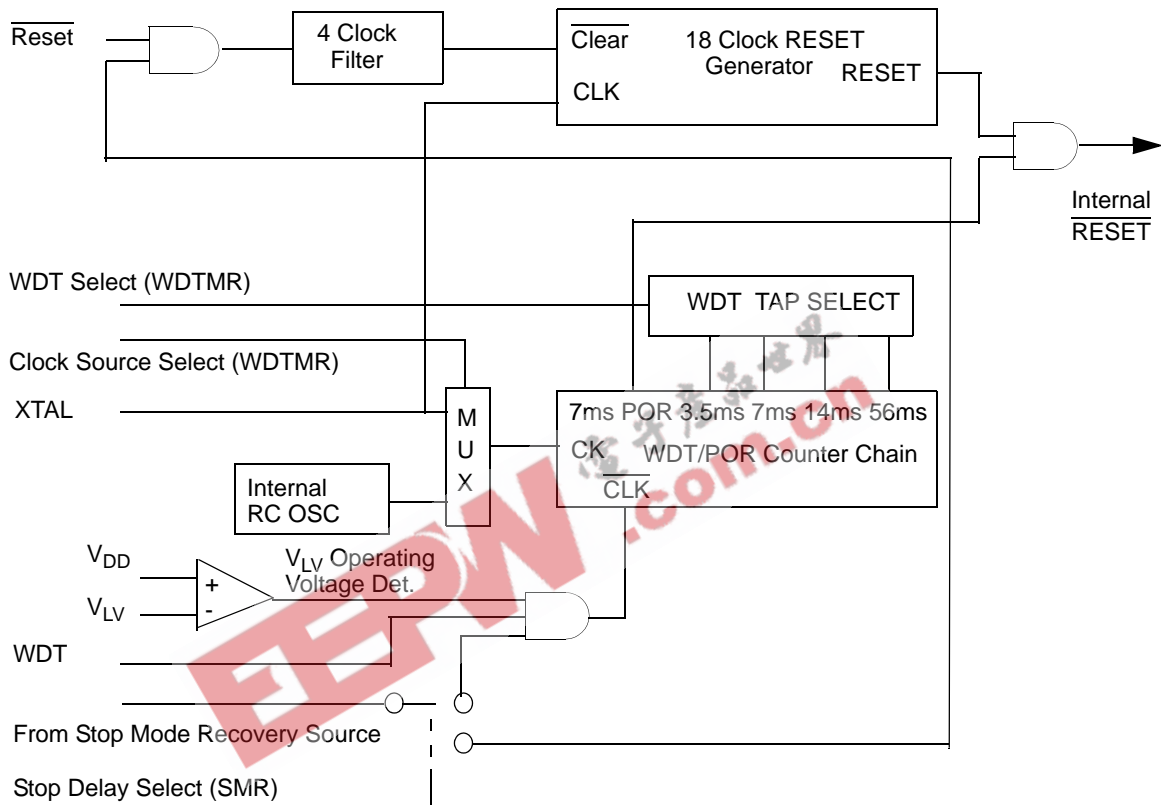

Figure 14. Resets and Watch-Dog Timer Example
**WDTMR Register Accessibility.** The WDTMR register is accessible only during the first 64 internal system clock cycles from the execution of the first instruction after Power-On Reset, Watch-Dog Reset, or Stop-Mode Recovery. After this point, the register cannot be modified by any means, intentional or otherwise. The WDTMR cannot be read and is located in Bank Fh of the Expanded Register File at address location 0Fh (Figure 14).